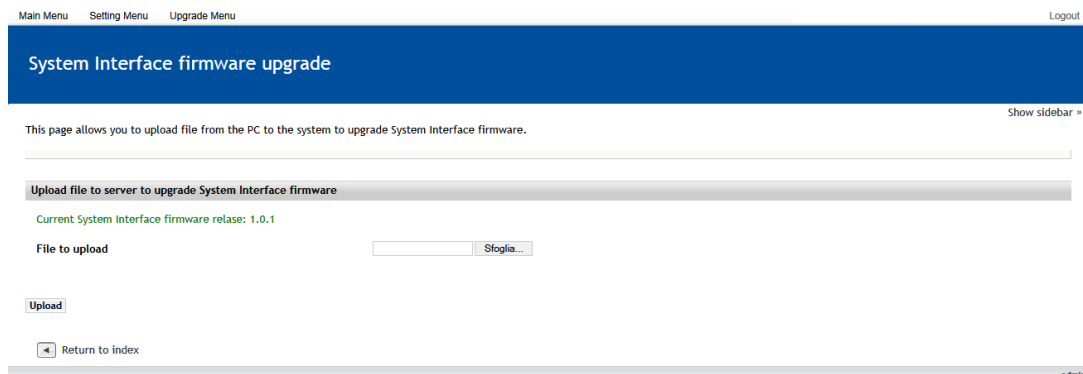

Figure 33: Baord firmware upgrade
- select the slot to update and the new firmware file to load, which has the format: **a1522.xxx**, where **xxx** indicates the firmware release (for example the version 1.0.3 has the following extension: a1522.103) and click on the *Upload* button as shown in **Figure 33**;